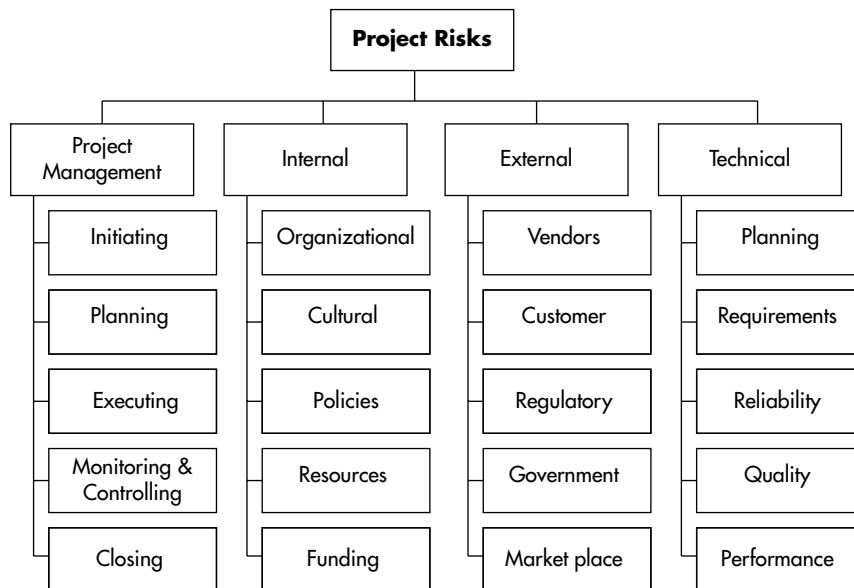

Figure 11-2 Sample Risk Breakdown Structure Categories
- **Risk categories** This can be a simple or detailed list of risks by category that you and your team select to document and track risks. A great way to do this is by using a Risk Breakdown Structure (RBS) to show risks by category or source. A sample RBS is shown in Figure 11-2.